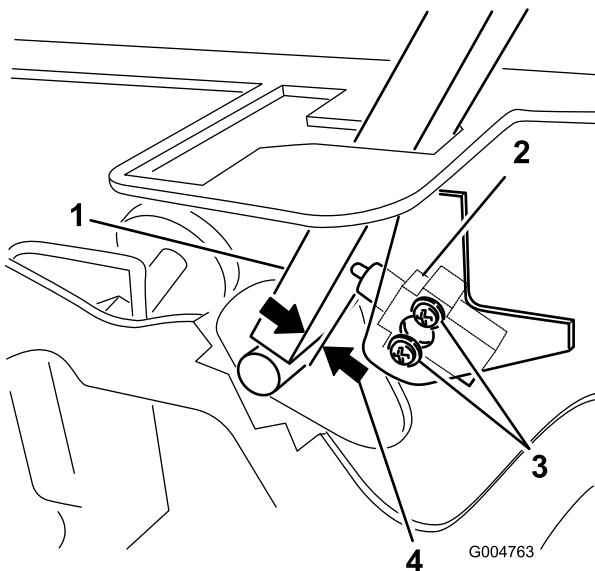

Figure 61
3. Loosen the 2 screws securing the interlock switch (Figure 61).
4. Holding the control lever against the frame, move the switch toward the lever until the distance between lever and switch body is 0.015 to 0.045 inch (0.4 to 1 mm) (Figure 61).